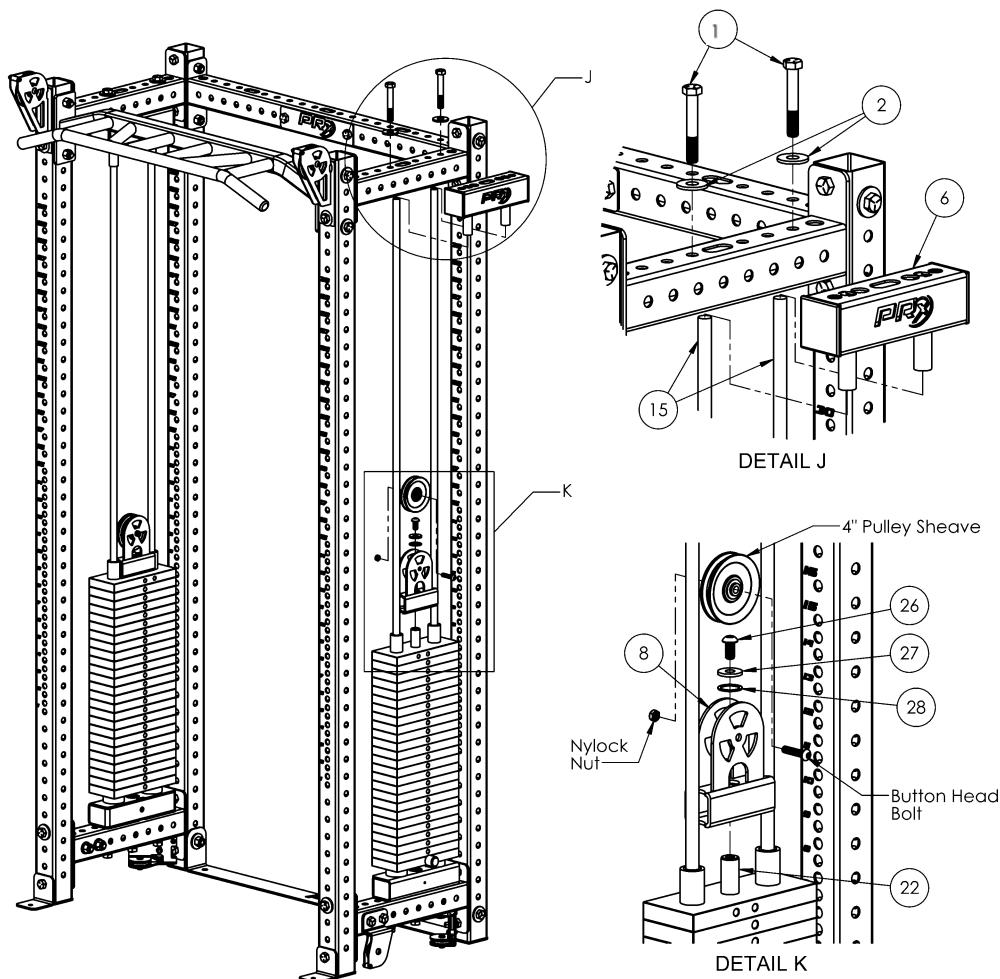

Figure 6
*NOTE: These two brackets share hardware. The 5/8"x4" Hex Bolts (1) go through the Outer Return (10) and thread into weld nuts inside Stack Bracket (7). Bolts should not be tightened until the weight stack plates and Top Weight Stack Bracket (6) have all been placed in future steps. **Figure 6***
1. Tilt the top of Guide Rods (15) outward and slide the Top Weight Stack Bracket (6) onto them. Continue sliding it up until it fits beneath the top crossmember of the rack, then lift it into position and secure it using the specified hardware. **Figure 6, Detail J**
2. After securing the Top Weight Stack Bracket, return to the Bottom Weight Stack Brackets (7) and tighten the hardware.
3. Before attaching the Single Stationary Pulley (8), remove the 4" Pulley Sheave. **Figure 6, Detail K**
4. Attach the Single Stationary Pulley (8) to the top of the Head Plate (22) with the hardware shown. **Figure 6, Detail K**